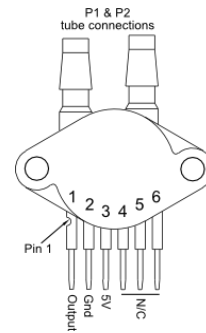

**Figure 4. Recommended Power Supply Decoupling and Output Filtering**
**Table 1. Operating Characteristics** ( $V_S = 5.0$  Vdc,  $T_A = 25^\circ\text{C}$  unless otherwise noted,  $P_1 > P_2$ . Decoupling circuit shown in Figure 4 required to meet electrical specifications.)